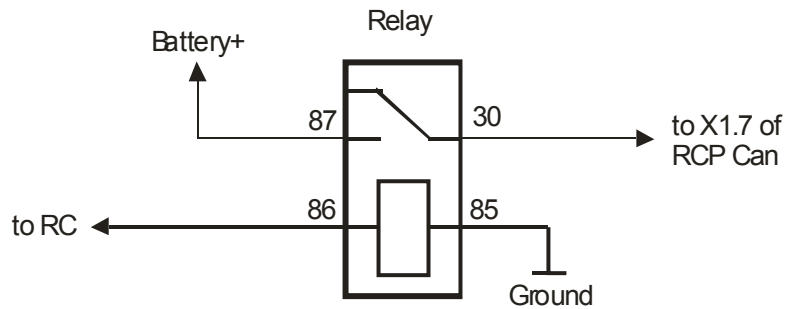

Figure 8
- The input RC\_in is intended for the connection of specialized remote controls such as DEFA Smart Start, Hydronic Easy Start, Webasto Telestart. If a problem exists with direct connection of the remote control output line to the input RC\_in, it is recommended to make a connection by the scheme at the fig.8.